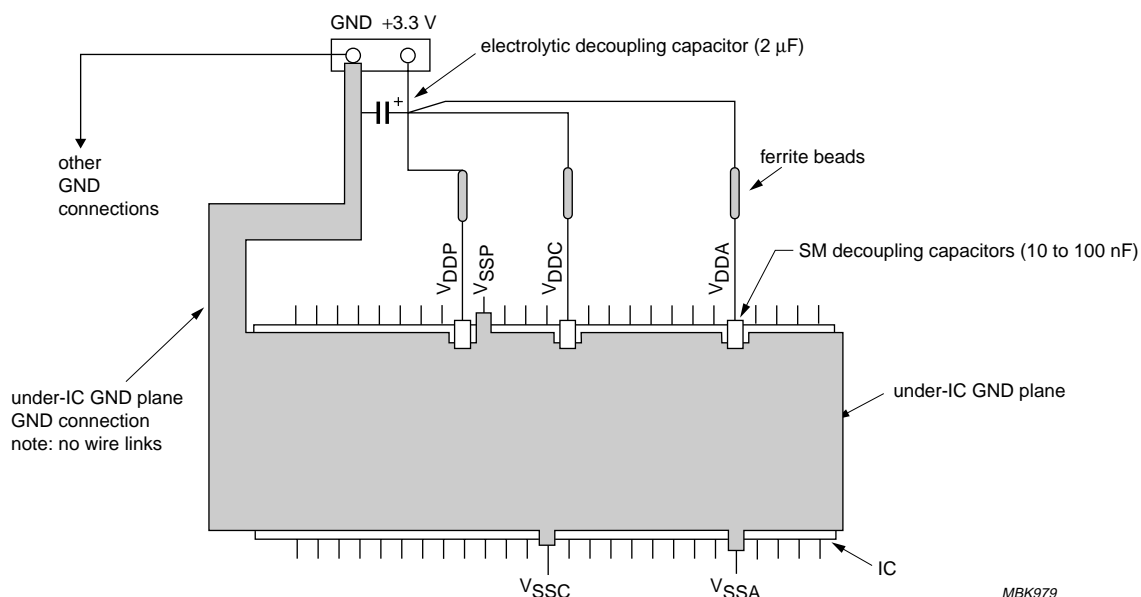

Fig.30 Power supply connections for EMC.
On a single sided printed-circuit board a local ground plane under the whole Integrated Circuit (IC) should be present as shown in Fig.30. This should be connected by the widest possible connection back to the printed-circuit board ground connection, and bulk electrolytic decoupling capacitor. It should preferably not connect to other grounds on the way, and no wire links should be present in this connect. The use of wire links increases ground bounce by introducing inductance into the ground.